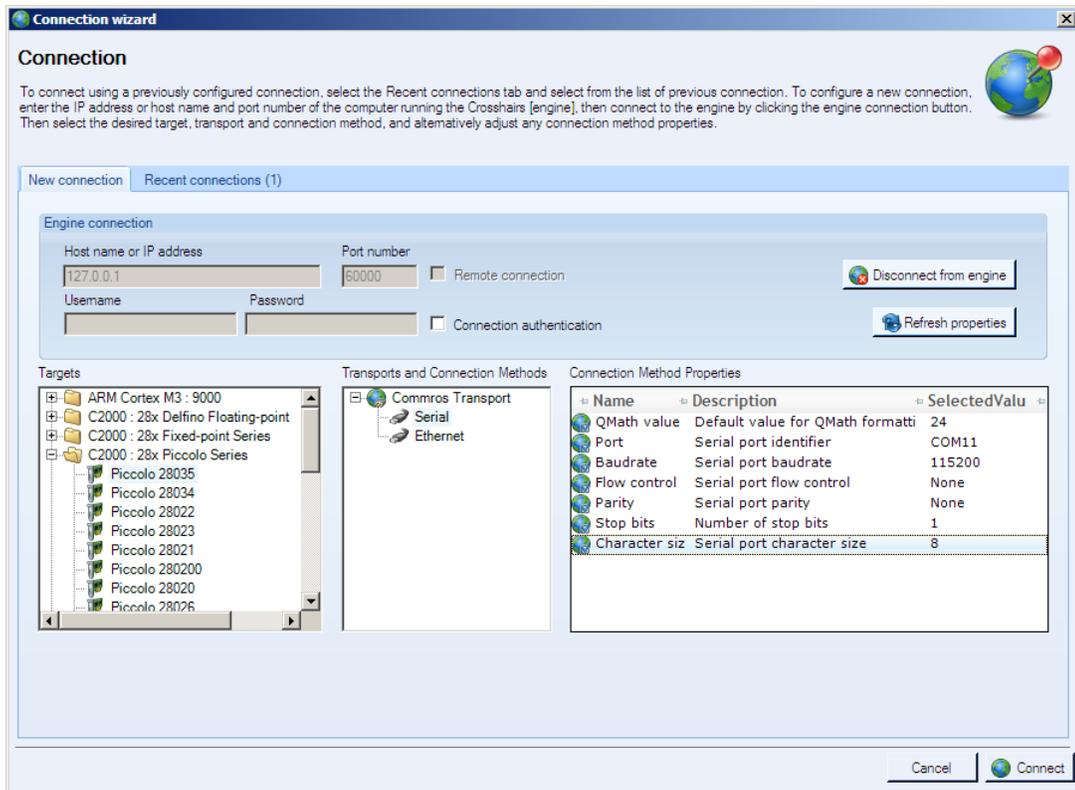

Fig4: GUI Setup Connections
- 3) The GUI should auto-detect and connect to your DRV830x-HC-EVM. If auto-connect fails you will need to set up the connection manually. The Connection Wizard is accessed through the Connection menu. Click on “Connect to engine” to view a list of available targets. Now setup the Connection Wizard Dialog to match Fig 4. Select *Piccolo 28035* from the Target list and *Serial* for connection method. You will need to determine the correct COM port number for your system. This can be found by going to *Control Panel->System->Hardware tab->Device Manager->Ports(COM & LPT)*. And look for the one which is described as USB Serial Port or similar. Hit Connect once done.